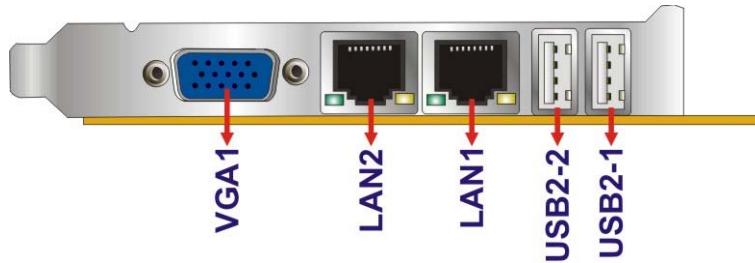

Figure 3-32: External Peripheral Interface Connector
- CN Location:** See Figure 3-32
- CN Location: See Figure 3-32